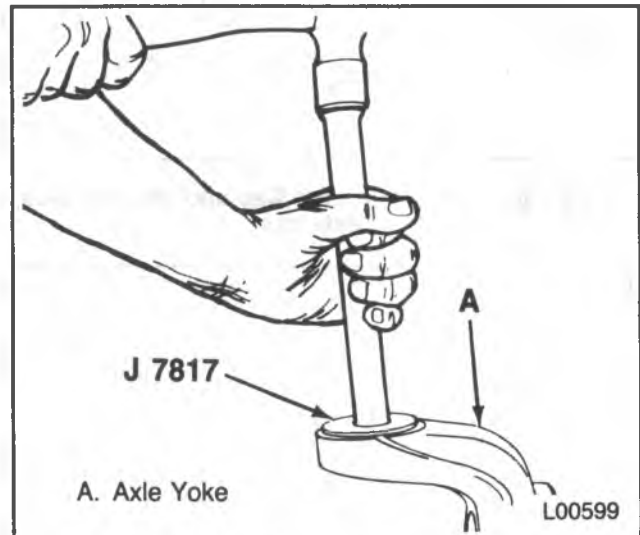

Figure 65 — Installing the Retainer
1. Retainer (281) and the race (282).
- Use J 7817 (figure 65).